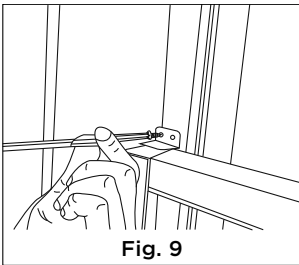

Fig. 9
C. To secure lower sash in place, attach right angle sash lock with 3/4" (19mm) or 1/2" (12.7mm) screw as shown (Fig. 9).